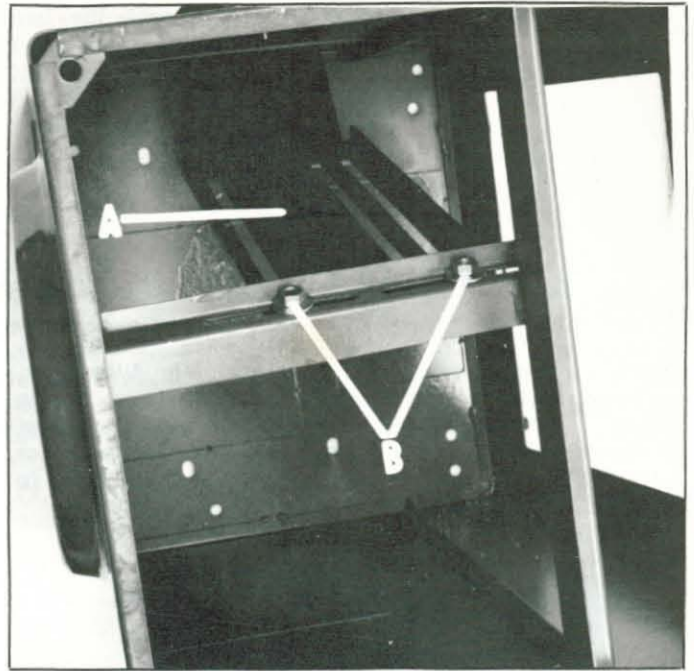

Fig. 5
2. Assemble the motor mounting plate (A) Fig. 5, using the two hex head cap screws, flat washers and nuts (B). The other end of the motor plate is fastened to the side of cabinet using a carriage bolt from the outside of the cabinet and a flat washer and nut on the inside.